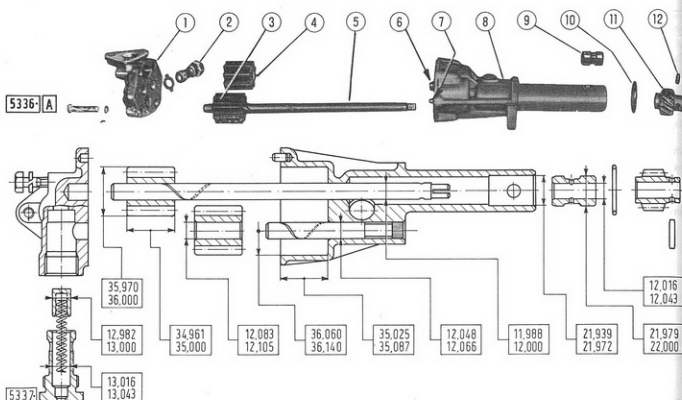

Fig. 86 - The Oil Pump (dimension in mm.)
dimensions given in Fig. 86. If replacement parts are needed remember that drive shaft (5) and drive gear (3) are supplied as a single piece; this is because the gear is shrunk on the shaft. Also note that the bore diameter quoted for bush (9) is to be obtained after press fitting.